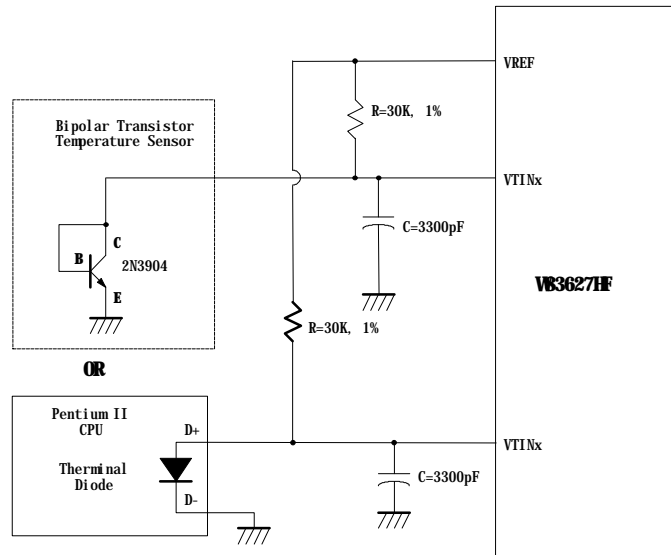

Figure 11.3
The W83627HF can alternate the thermistor to Pentium IITM (Deschutes) thermal diode interface or transistor 2N3904 and the circuit connection is shown as Figure 11.3. The pin of Pentium IITM D- is connected to power supply ground (GND) and the pin D+ is connected to pin VTINx in the W83627HF. The resistor R=30K ohms should be connected to VREF to supply the diode bias current and the bypass capacitor C=3300pF should be added to filter the high frequency noise. The transistor 2N3904 should be connected to a form with a diode, that is, the Base (B) and Collector (C) in the 2N3904 should be tied together to act as a thermal diode.